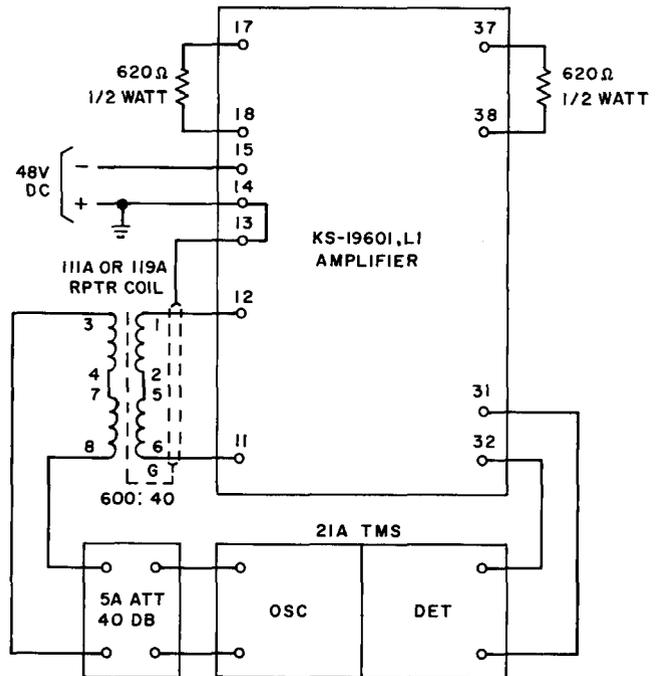

Fig. 5 — Test Setup for Low-Level Channel Gain-Frequency Test
4.01 The test setup for measuring the low-level channel is shown in Fig. 5. Chart IV gives the step procedure to be followed when making the test. The oscillator level is measured to ensure that the amplifier will deliver the proper output with a specified input voltage. The procedure may vary slightly, depending on the testing equipment used.
2	Connect circuit as shown in Fig. 5.
8	Reconnect circuit as shown in Fig. 5. Do not change oscillator output setting.